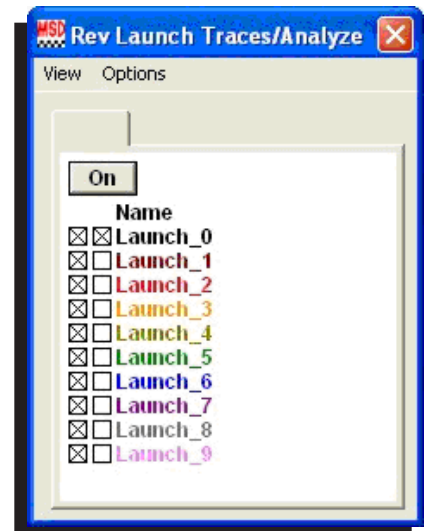

Figure 5 Trace/Analysis Controls.
2. Note that the Traces box has two squares in front of each program. By selecting the left box, the curve will be displayed on the screen. All 10 curves can be displayed. The right box indicates which curve can be modified and only one can be selected at a time (Figure 5).